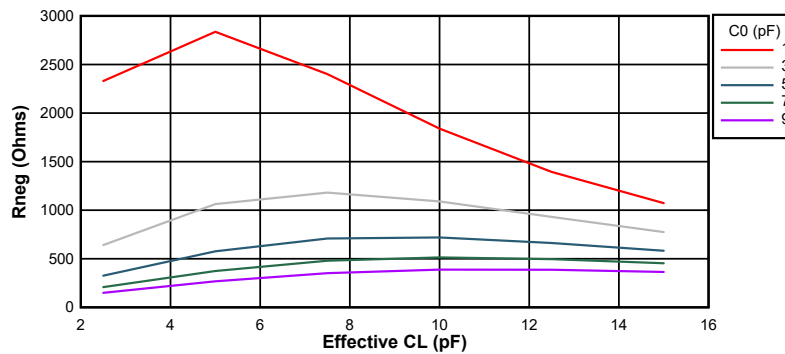
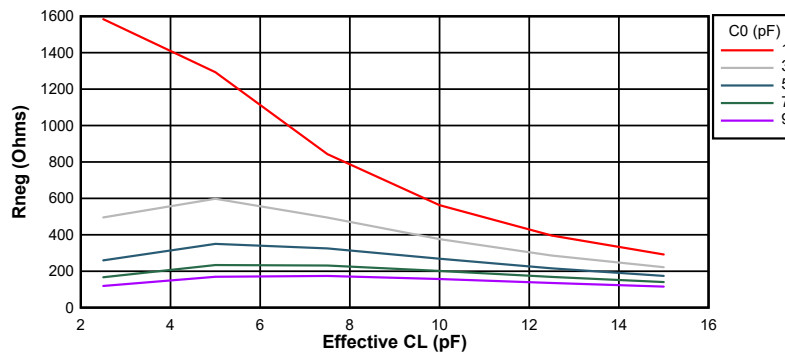

Figure 6-16. Negative Resistance Variation at 10 MHz
Figure 6-17. Negative Resistance Variation at 20 MHz
Figure 6-16 and Figure 6-17 show the variation between negative resistance and the crystal components for this device. As can be seen from the graphs, the crystal shunt capacitance (C0) and effective load capacitance (CL) greatly influence the negative resistance of the electrical oscillator. Note that these are typical graphs; so, refer to Table 6-6 for minimum and maximum values for design considerations.